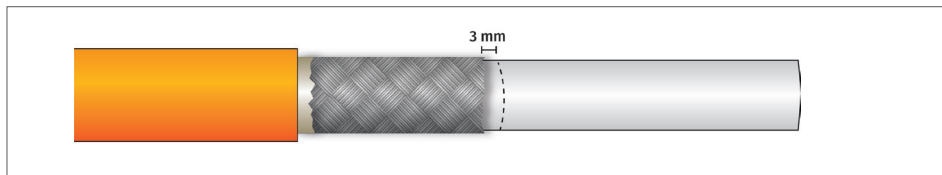

Fig. 7-15: Step 4: Marking the inner sheath
- ☞ Slide a 10 mm long piece of shrink sleeve over the HV power cable up to the marking (Fig. 7-15).